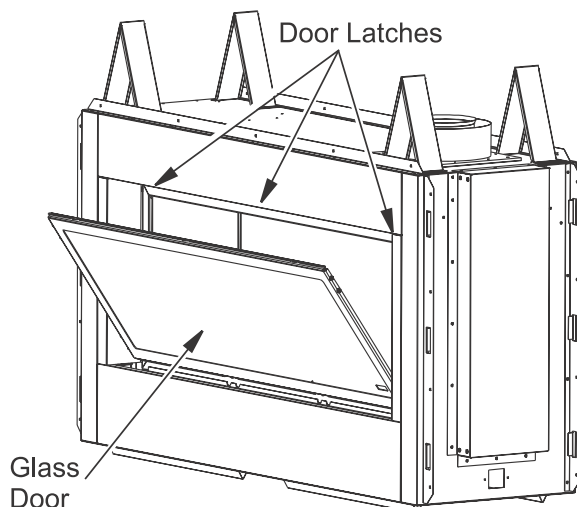

Figure 28 - Removing/Replace Glass Door
4. Tilt open glass door 45° from the top of firebox and lift up to release door from retaining channel (see Figure 28, page 23).
1. Position door frame in front of firebox opening tilting top of door about 45° toward you. Insert bottom flange of glass door into the retaining channel at the bottom of firebox (see Figure 28). Make sure door is center with firebox opening.